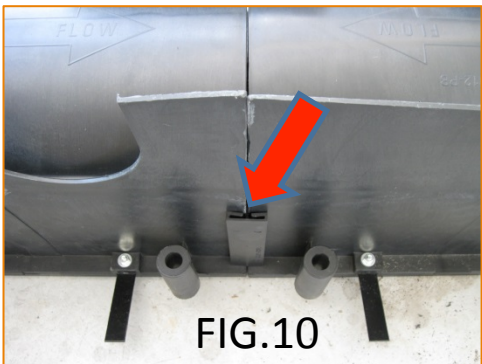

FIG.10
STEP 3. Install Body Clips (2):
Butt together the (2) previously Cut Channel Ends and install the (2) Body Clips to secure! (See FIG. 10). A hammer may be required to Tap down the Body Clips.